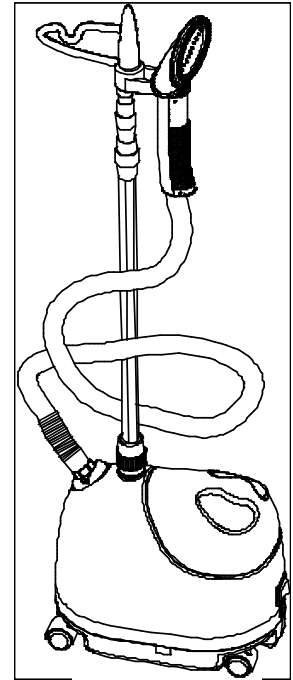

Figure 14
3. Wrap the *Hose* around the *Telescopic Pole* one time as shown in Figure 14.